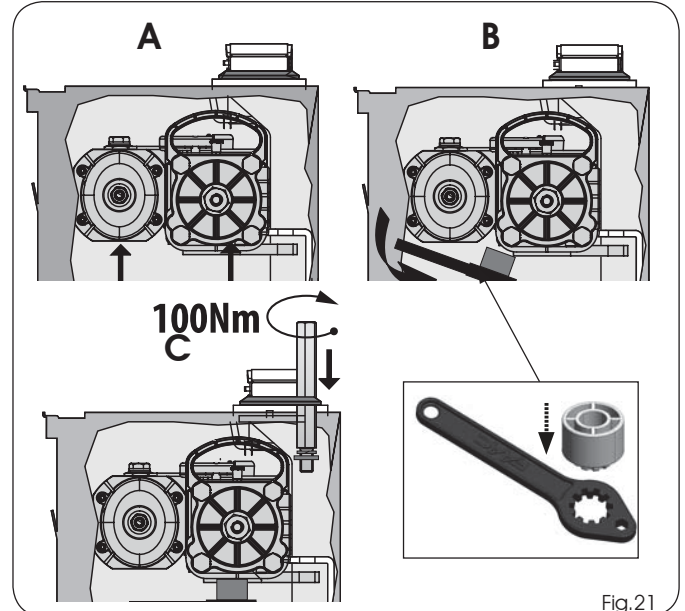
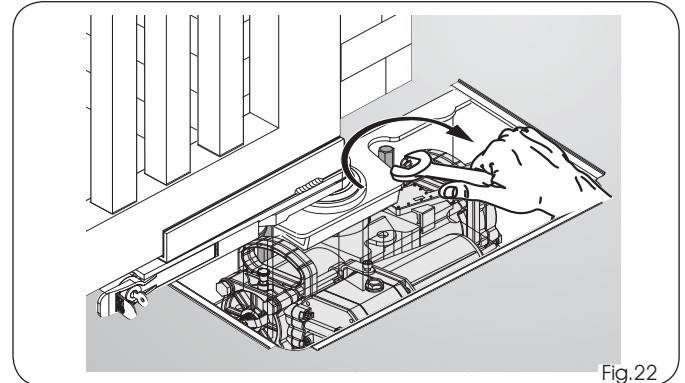

Fig.21
Fig.22
12) Lift the operator using the specific panels (Fig.21 ref.A), and insert the pinion in the splined bush of the support box. To facilitate the operation, turn the operator until they couple.
13) Place the supplied key beneath the operator (Fig.21 ref. B) to support the engine.
14) Insert and screw the fixing screws with the groover (Fig.21 ref. C, to secure the operator to the support box, as in figure 22.